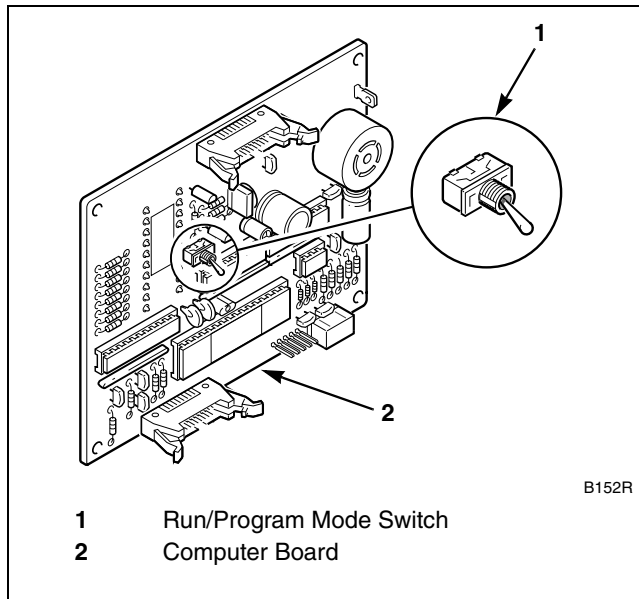

Figure 1
3. Locate the Run/Program Mode switch near center of computer board inside control module. Refer to *Figure 1*.